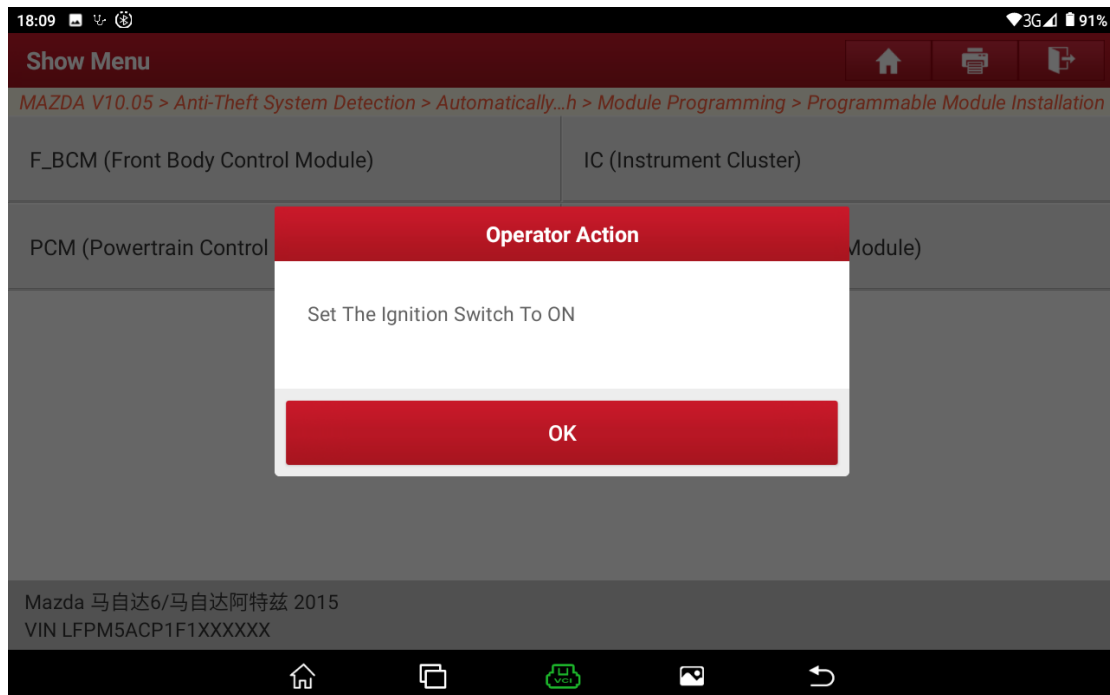

Figure B11
9. Turn on the ignition switch. See Figure B11.